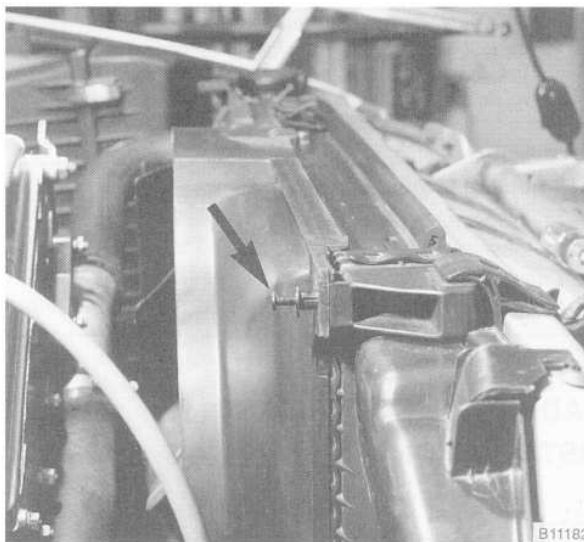

Fig. 21. Fan shroud retaining rivet. Pry out center pin (arrow) and remove rivet.
2. Remove expansion rivets holding shroud to radiator. See Fig. 21.